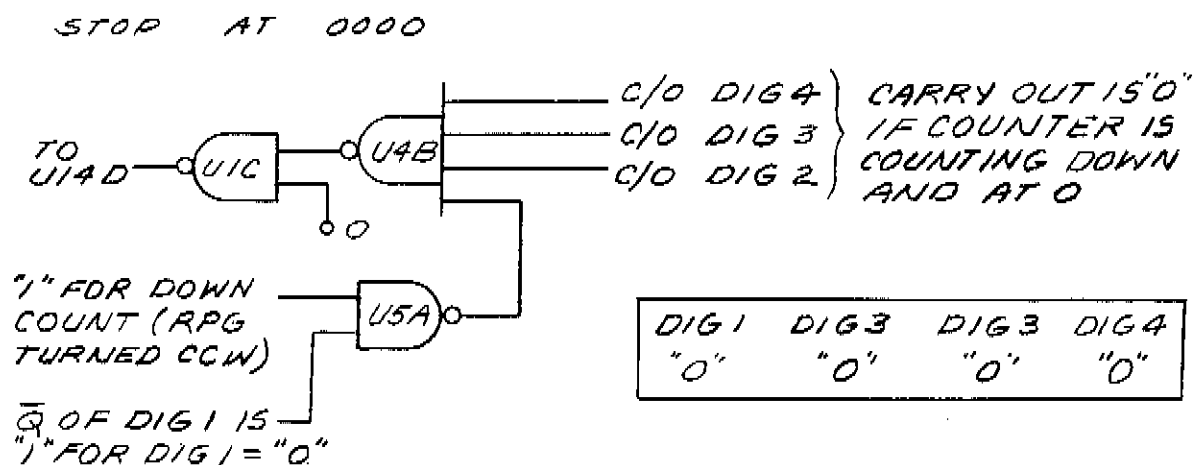

Figure C3-22D. 0000 MHz Stop Circuit Operation
**0000 MHz Stop Circuit.** The pulses from the RPG will pass through U14 only when the other input is a logic "1". When the other input is a logic "0", the RPG pulses are prevented from reaching the Counter clock inputs, therefore the counters are disabled. The logic state of this input to U14D is controlled by the output of U4B (which is then inverted by U1C). Figure C3-22D is a simplified schematic diagram of the 0000 MHz Stop Circuit. When U4B output is a logic "1", U14D controlling input is a logic "0". The output of U4B is a logic "1" only when all inputs are logic "0". These inputs are logic "0" when counters all read zero and counting down (RPG turning counterclockwise).